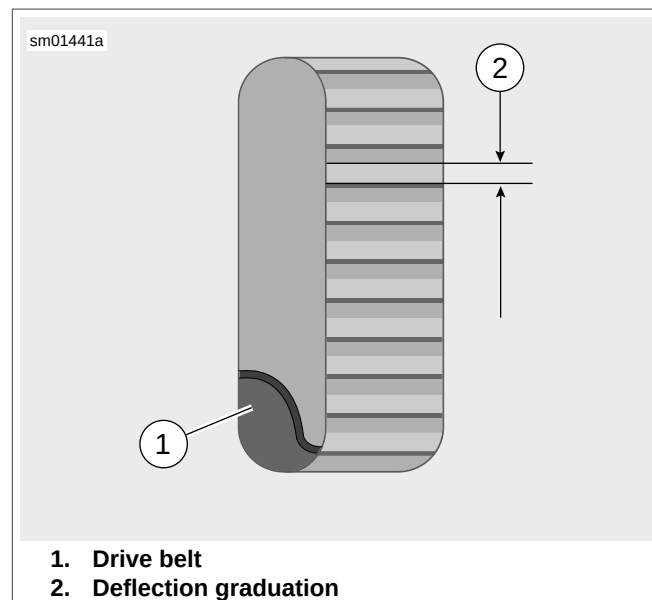

Figure 34. Belt Deflection Window
9. See Figure 34. Measure belt deflection through window.